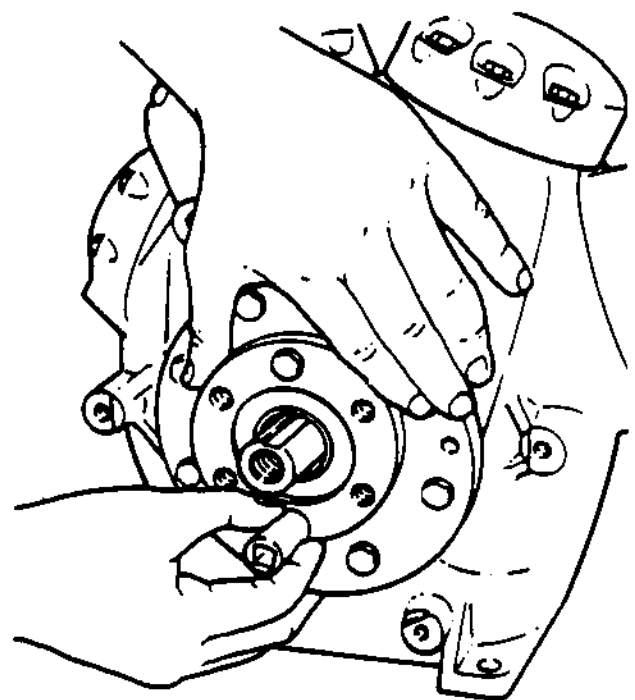

Figure 44 - Installing Shaft Seal Cover
5. Place the seal over the crankshaft and against the carbon nose ring. Push the seal cover and seal into the compressor until the cover contacts the bearing head mounting flange. Insert and tighten two bolts on opposite sides of the cover hand tight (Figure 44).